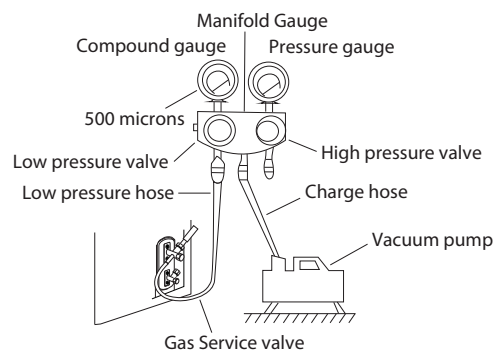
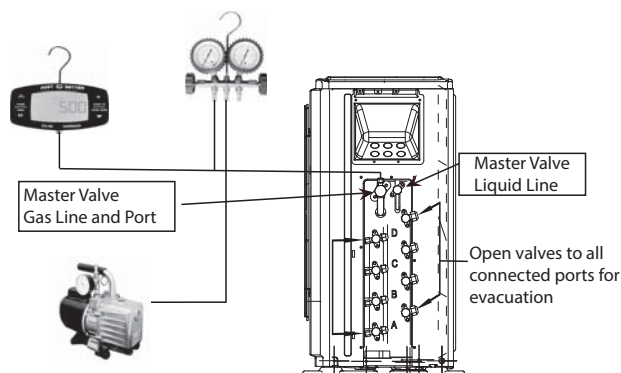

Fig. 21 – Manifold Gauge
Fig. 22 – Manifold Sizes 27–48
For sizes 27–48, connect the manifold gauge (low side hose) to the Master service valve (5/16 port, use the adapter to fit a 1/4in. hose) to evacuate all circuits at the same time (see Fig. 22).
5. Open (fully) the low pressure valve of the manifold gauge (see Fig. 21 for 18. Fig.22 for sizes 27–48).